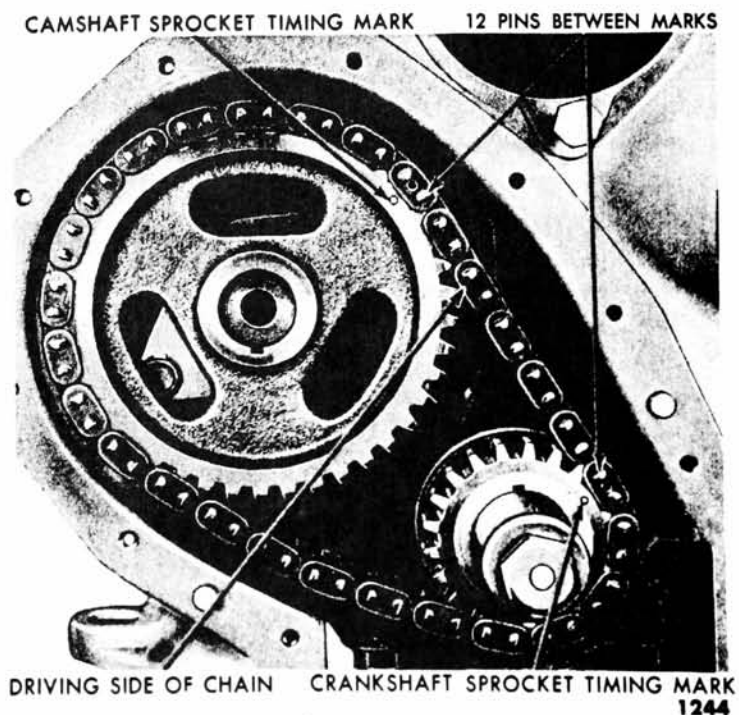

Fig. 16—Aligning Timing Marks
(1) **REMOVAL.** Remove the radiator and the cylinder front cover. Crank the engine until the timing marks on the sprockets and chain are positioned as shown in fig. 16.
(2) **INSTALLATION.** Place the keys in position in the slots on the crankshaft and camshaft. Position the sprockets and timing chain on the camshaft and crankshaft. Be sure the timing marks on the sprockets and chain are positioned as shown in fig. 16. There are 12 timing marks on the
Remove the camshaft sprocket bolt. Crank the engine until the timing marks on the sprocket and chain are positioned as shown in fig. 16. Remove the distributor cap, and scribe a line on the distributor housing and cylinder block to mark the position of the rotor and distributor housing for installation, then remove the distributor.